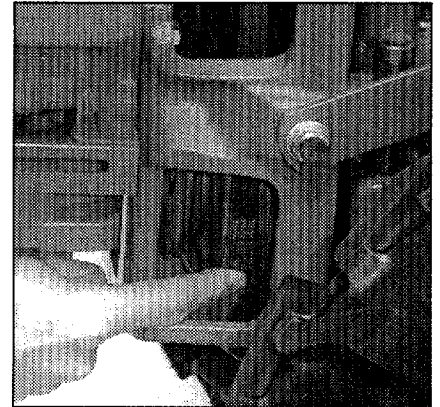

Figure 4-13: High range to low range. Shows moving belt from lower-front onto lower-rear groove.
6. Go to the *right side* of the tiller and finish seating the belt (Figure 4-13).